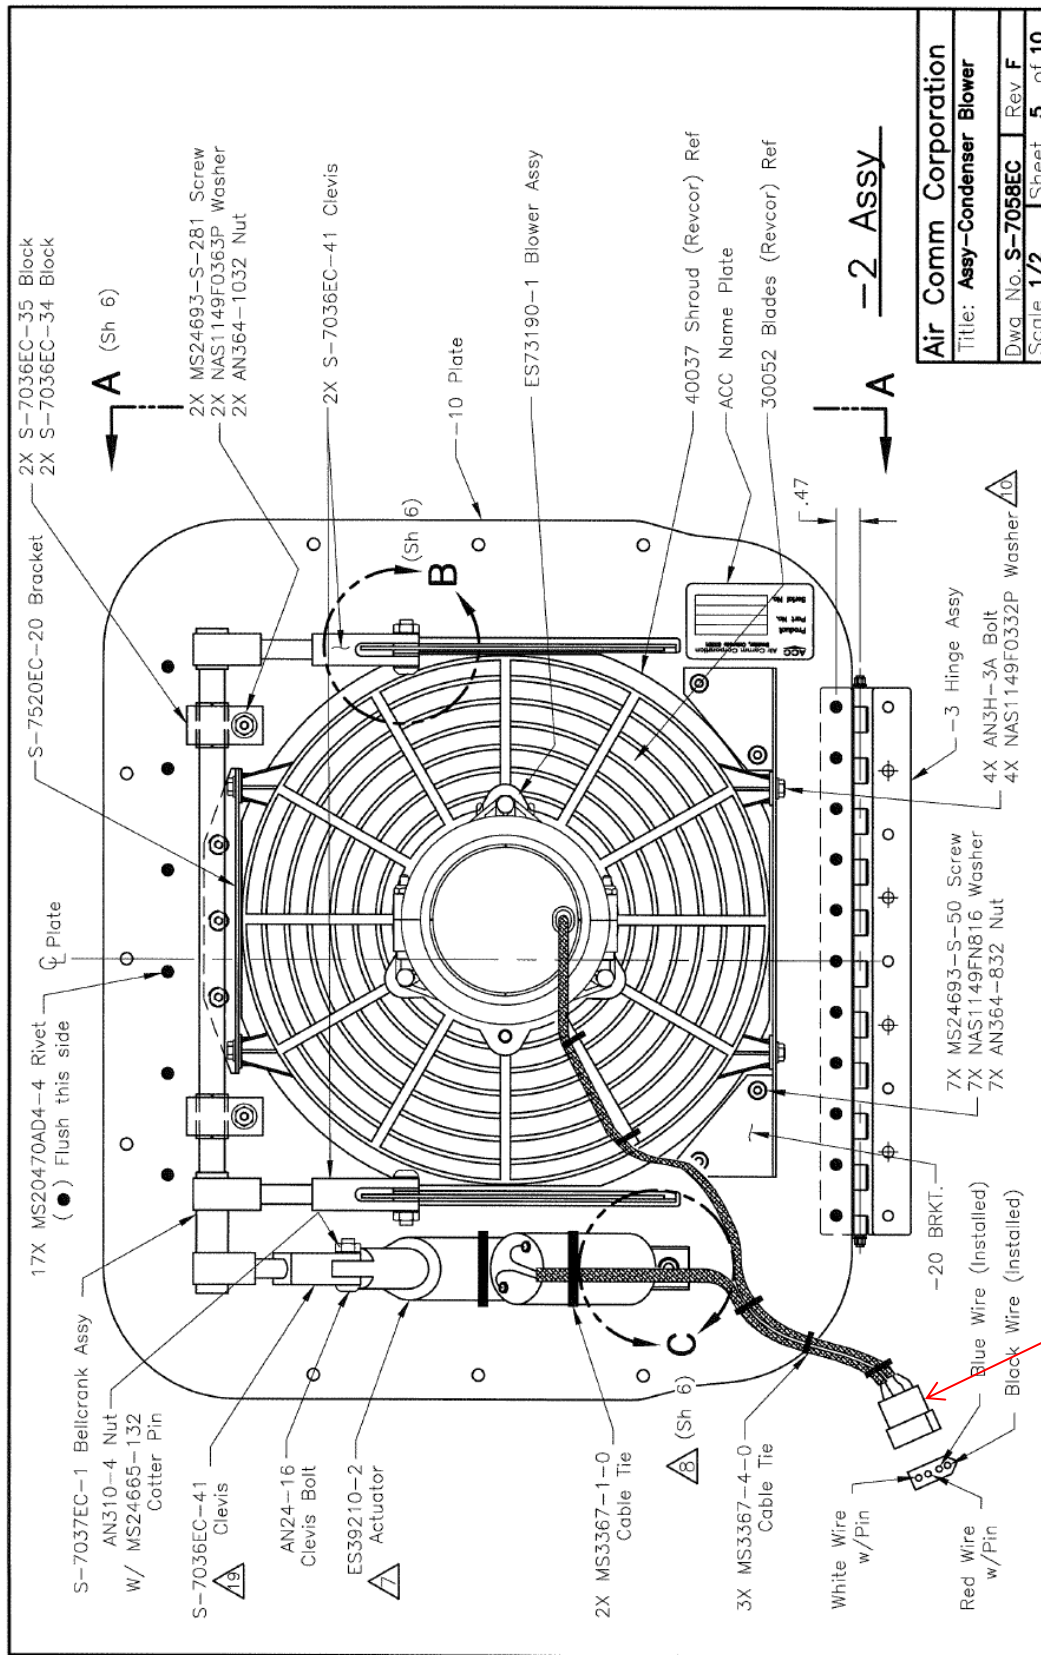

Figure 2. Condenser Blower 427 AC systems
1. Access the condenser assembly, located below the aft cargo compartment. See Figure 2.